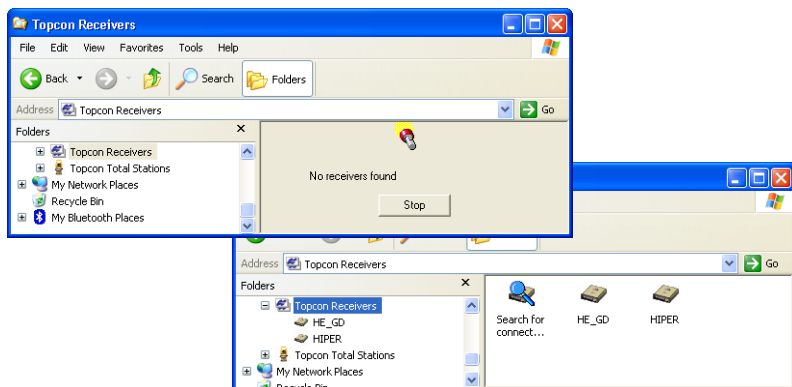

Figure 5-1. Searching and Finding Topcon Receivers in Windows Explorer
2. Open Windows Explorer and click the Topcon Receiver folder. The right panel of the window displays the automatic start of searching for Topcon receivers connected to any of the computer ports (COM and USB) (Figure 5-1).
When finished, all receivers connected to the computer ports (Figure 5-1) display.